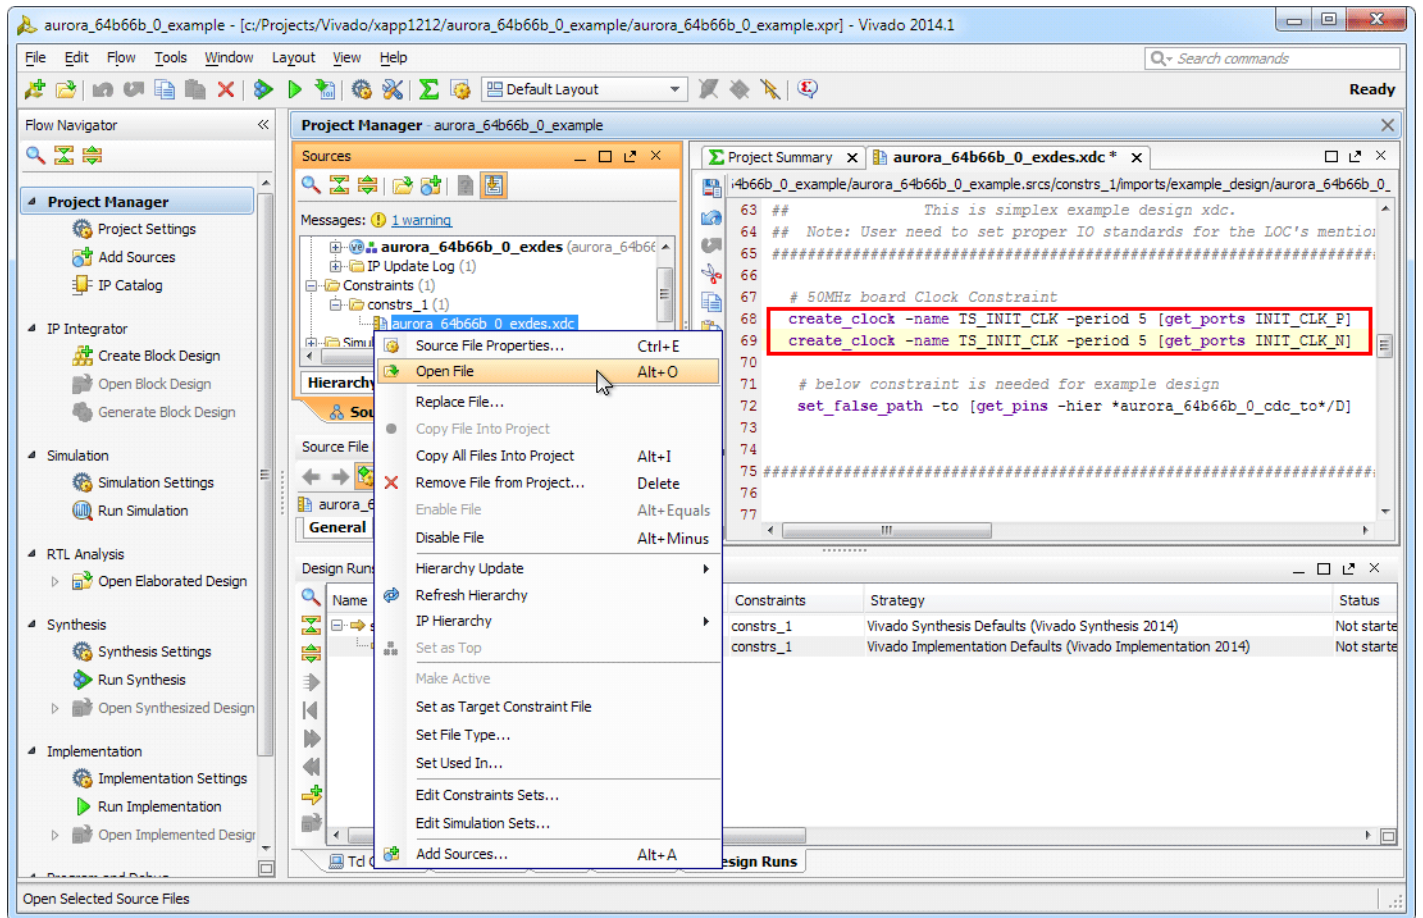

Figure 11: Open Constraints File
3. In the newly-opened Vivado IDE window, expand the Constraints entry in the Sources panel of the Project Manager section. Right-click the constraints file (`aurora_64b66b_0_exdes.xdc`) and select **Open file** (Figure 11).
4. Locate the two 50 MHz board clock constraints (see Figure 11).